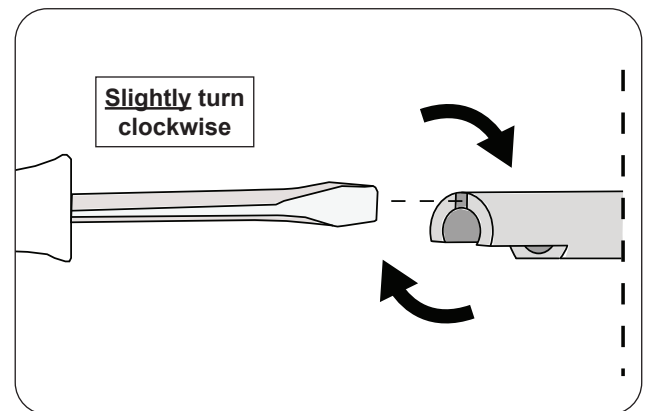

Fig. 45-2 Stem adjustment
2. Insert a flathead screwdriver into the split portion of the stem and **GENTLY** turn the screwdriver clockwise. Be cautious! Only a slight turn is needed as the stem is flexible. See Fig. 45-2.